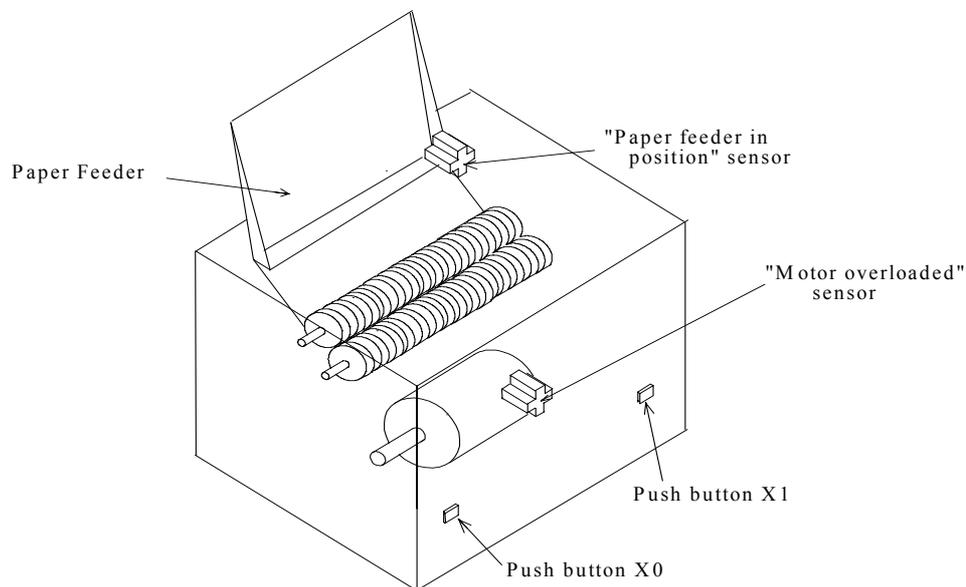

Figure Q11 (a)
11. (a) A PLC controlled industrial shredding machine is illustrated in Figure Q11. The shredding machine operates as follows:-